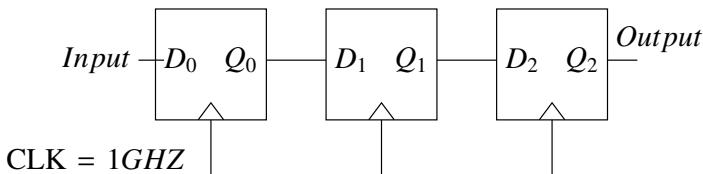

Fig. 5.8
8. The synchronous sequential circuit shown below in Fig. 5.8 works at a clock frequency of  $1GHz$ . The throughput, in  $Mbits/s$ , and the latency, in  $ns$ , respectively, are